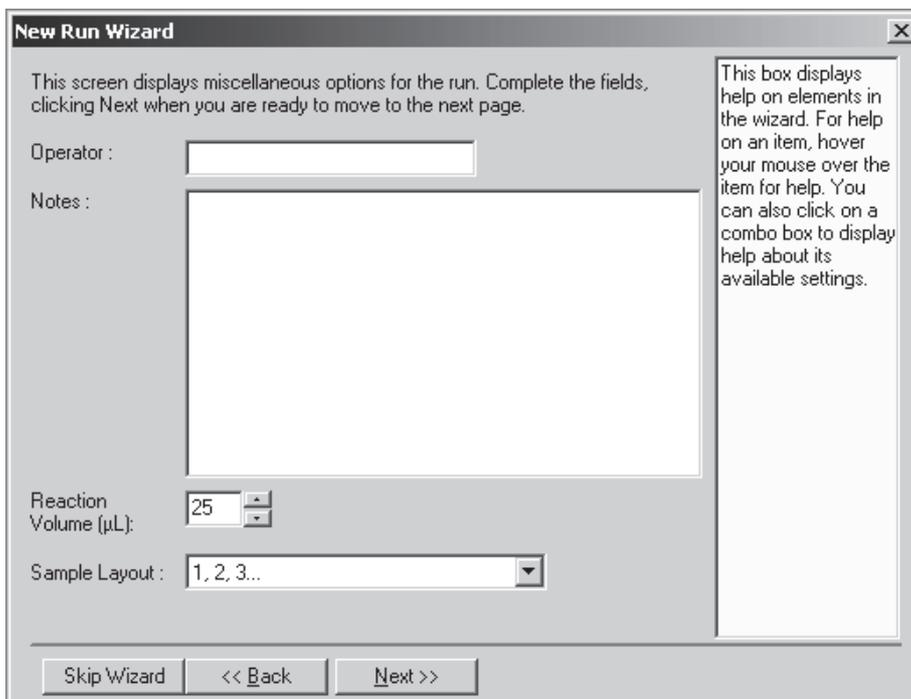

Figure 6. Selecting the reaction volume.
4. Ensure that the reaction volume is set to 25 μl . Click "Next" to continue (Figure 6).